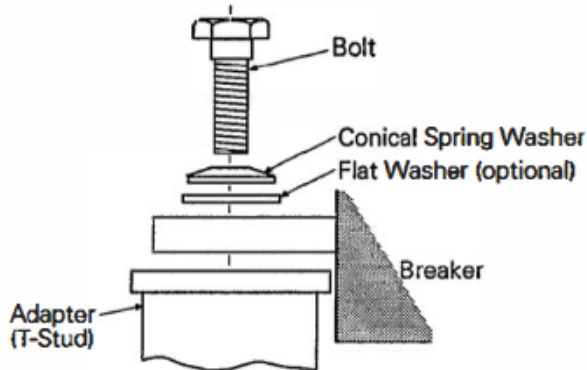

Figure 3. Assembly of bus adapter, catalog numbers TP08BFCA, SPOBFCA, and SPOBFCC.
- Figure 3 for catalog numbers TPOSFCA, SPOSFCA, and SPOBFCC.